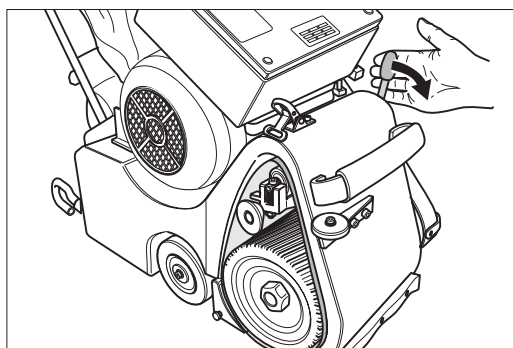

Fig. 14 Never forget to retension the sanding belt. Otherwise, damage or injury can occur!
- 6 To tension the sanding belt, press the tensioning lever downwards (Fig. 14).
- 6 If you wish to remove the tensioning roller of the drive unit (*Section 6.6.2, Exchanging the tensioning roller*), press the operating lever for the drive unit downwards (Fig. 14).